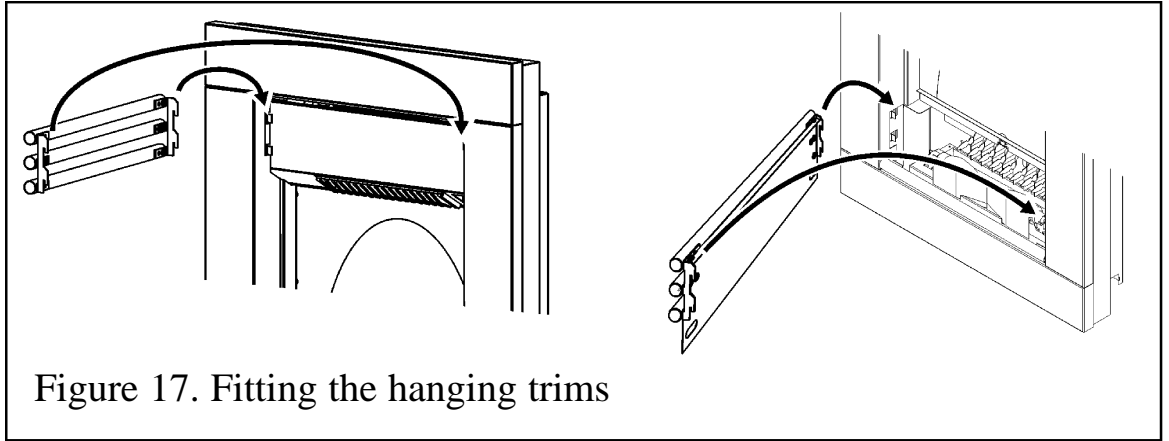

Figure 17. Fitting the hanging trims
2. Supplied in the fascia pack are two tubular trim sets. The lower trim set has a flat plate fitted to the rear. Hang the upper and lower trim sets as in figure 17.
3. Supplied in the fascia pack is a three bar trim. Hang this at the bottom of the fascia (See figure 17).